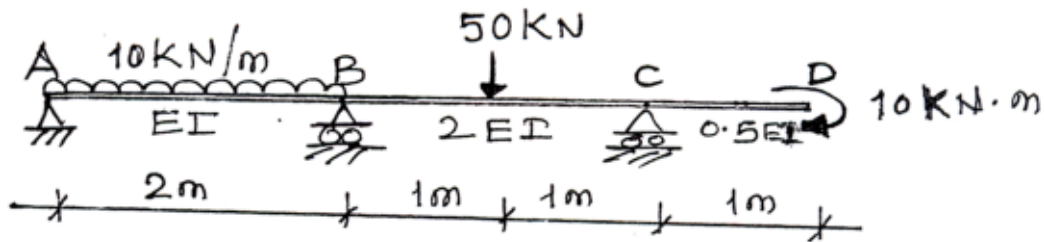

Fig. 3
3. Analyse the rigid jointed plane beam, loaded and supported as shown in fig. 3, using Flexibility Matrix Method. Draw BMD, SFD and Elastic Curve. 16